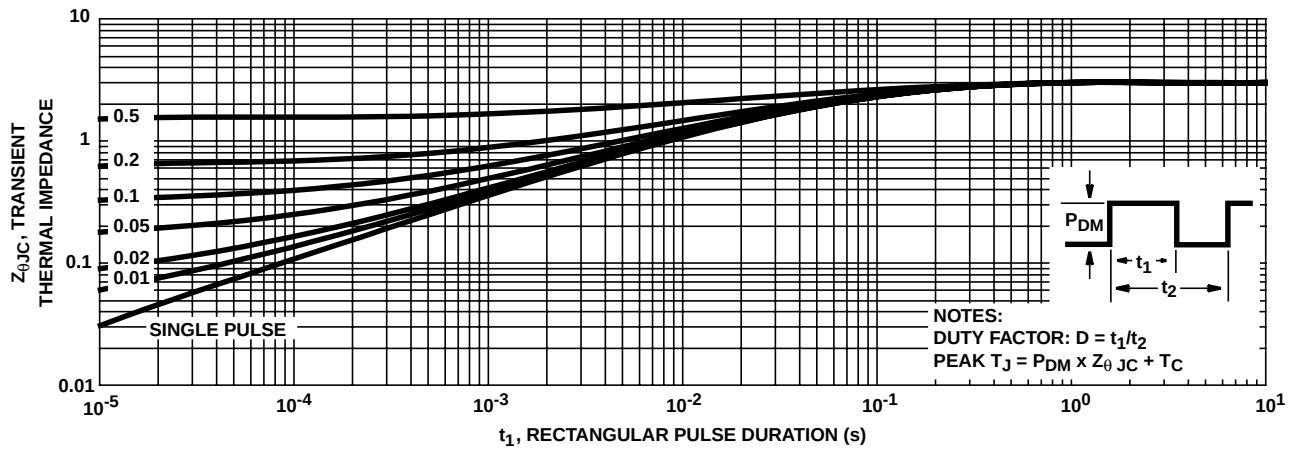

FIGURE 3. MAXIMUM TRANSIENT THERMAL IMPEDANCE
3. Repetitive rating: pulse width limited by maximum junction temperature. See Transient Thermal Impedance curve (Figure 3)